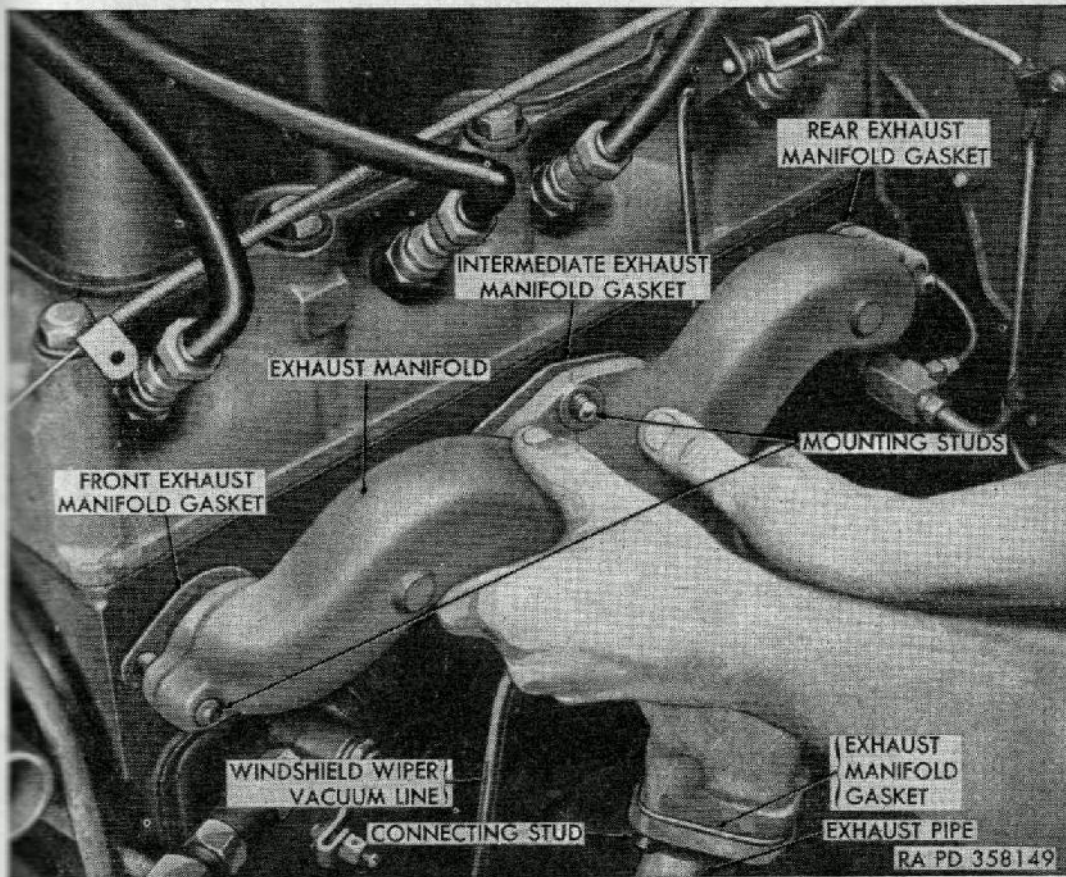

Figure 22. Removing exhaust manifold.
- (2) *Intake and exhaust manifolds.* The intake manifold is of the sealed-in type, cast directly into, and considered a part of, the cylinder head. The exhaust manifold (fig. 22) is attached to the left side of the cylinder block and secured by safety nuts. The exhaust manifold is a single cast unit with exhaust ports in the exhaust manifold registering with exhaust ports in the cylinder block. The purpose of the exhaust manifold is to direct the exhaust gases created by the engine during combustion to the exhaust pipe and muffler (figs. 22 and 55). The sealed-in intake manifold distributes the fuel-air mixture from the carburetor to the combustion chambers.
- (7) *Exhaust manifold.* Tighten exhaust manifold safety nuts where exhaust manifold (fig. 22) is attached to the engine and to the exhaust pipe to prevent leaks.
- (8) *Fuel system.* Check fuel pump operation and refer to paragraph 66 for method of testing fuel pump pressure. Check all fuel and vacuum lines for leaks and good condition.
- (2) *Remove control cable bracket and windshield wiper vacuum line.* Remove safety nut and lock washer attaching control cable bracket (fig. 33) to cylinder block and remove control cable bracket. Unclip windshield wiper vacuum line (fig. 22) from clip on exhaust valve cover and push vacuum line down below level of exhaust manifold to exhaust pipe flange.
- (3) *Disconnect exhaust manifold from exhaust pipe.* Remove safety nut from forward end of exhaust manifold to exhaust pipe flange. Remove safety nut from bolt on rear end of exhaust manifold to exhaust pipe flange and remove bolt.
- (4) *Remove exhaust manifold and exhaust manifold gaskets (fig. 22).* Remove five safety nuts from mounting studs attaching exhaust manifold to cylinder block and remove exhaust manifold. When removing exhaust manifold, pull out to disengage exhaust manifold from mounting studs on cylinder block and then up to disengage exhaust pipe from connecting stud on exhaust manifold. Remove three (front, intermediate, and rear) exhaust manifold gaskets from exhaust ports and discard. Remove exhaust manifold gasket between flange of exhaust manifold and exhaust pipe.
- (1) *Inspect exhaust manifold and clean gasket surfaces.* Inspect exhaust manifold for evidence of cracks or warpage. Clean all deposits of old exhaust manifold gaskets from gasket surfaces of exhaust manifold and cylinder block.
- (2) *Install exhaust manifold gaskets (fig. 22).* Install front, rear, and intermediate exhaust manifold gaskets in exhaust ports with metal portions of front and rear exhaust manifold gaskets inserted into exhaust ports. Place a new exhaust manifold gasket between flanges of exhaust manifold and exhaust pipe.
- (3) *Install exhaust manifold (fig. 22).* Position connecting stud on exhaust manifold in hole in flange on exhaust pipe. Push down on exhaust manifold and install exhaust manifold on mounting studs. Make sure mounting studs enter holes in exhaust manifold as evenly as possible to avoid damaging threads.
- (4) *Attach exhaust manifold (fig. 22) to cylinder block and exhaust pipe.* Install the bolt at the rear end of the exhaust manifold to exhaust pipe flange. Insert the bolt from the top and install safety nut. Install safety nut on connecting
- (5) *Install control cable bracket and windshield wiper vacuum line.* Pull windshield wiper vacuum line (fig. 22) up into position and install in clip on exhaust valve cover. Position control cable bracket (fig. 33) on cylinder block and secure with safety nut.